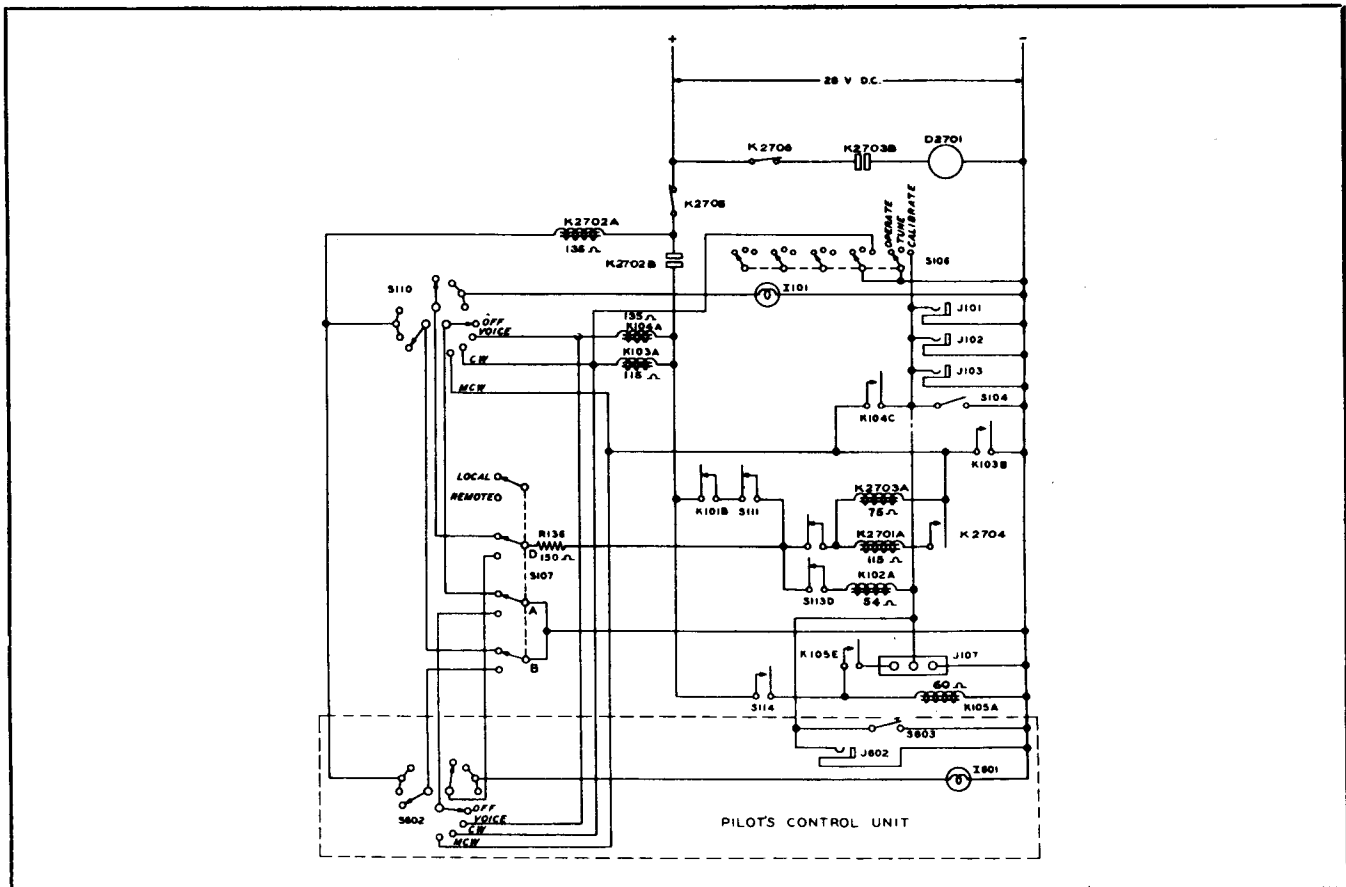

Figure 4-2. Power Control Circuits
(1) Figure 4-2 shows a simplified schematic of the power control circuits.
(2) Relays K2705 and K2706 are normally closed and operate to break the primary circuits when an overload occurs. These relays may be returned to the normal position by pressing the "RESET" buttons located on the Dynamotor Unit. Primary overload relay K2705 is designated as TRANSMITTER RESET